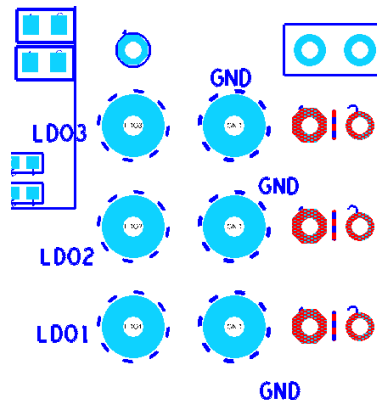

Figure 11. Locations for Measurement of LDO Regulator Output Voltages
- Figure 11 shows locations on the PCB where the LDO regulator output voltages can be measured accurately. For each LDO regulator, there is a pair of pads with holes to which wires, pins, or connectors can be soldered, or an oscilloscope probe can be connected. The larger of each pair of pads is the positive; the smaller pad is ground.